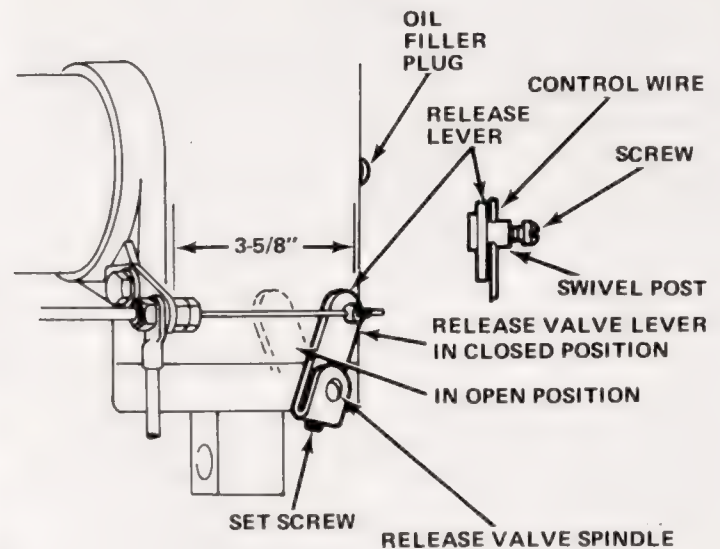

Fig. 1-33 Control Wire Installation
(12) Push control wire back through conduit until it extends approximately 1 inch beyond nut.
(13) Position wiper ring over wire and into conduit nut, and install wiper ring retainer and thread snugly into conduit nut against wiper ring.
(14) Route control wire through conduit and release valve lever swivel (with release valve lever in closed position as shown in figure 1-33) until it extends 1/2 inch or more beyond swivel. Tighten swivel post set-screw.
(15) Position release lever on control assembly (closed position) and snap starter button into control assembly bracket.
(16) Set control lever 1/16 inch away from starter button and tighten setscrew on handle. Cut off excess wire.
(17) Position motor solenoid under hood so cables reach connections. Using motor solenoid as guide, drill mounting holes and install with self-tapping screws.